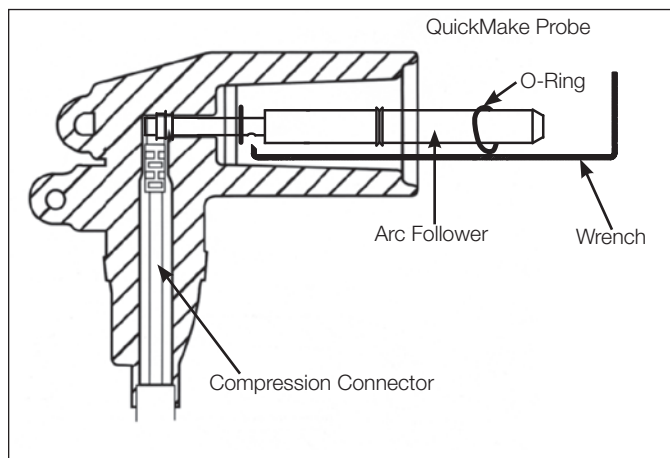

Figure 1.
- Center compression connector threaded hole with hole at back of the elbow. Thread the "new" probe into the compression connector and tighten it until the wrench bends 90°. See Figure 1.